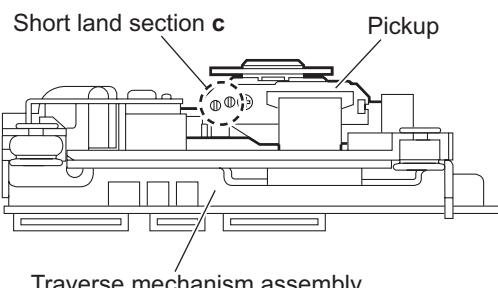

Fig.5
(See Figs.5 and 6)
- From the side of the traverse mechanism assembly, solder the short land sections **c** on the pickup. (See Fig.5.)
- Solder the short land sections **c** on the pickup before disconnecting the card wire from the connector CN101 on the DVD servo board. If the card wire is disconnected without attaching solder, the pickup may be destroyed by static electricity. (See Figs.5 and 6.)
- When attaching the DVD servo board, be sure to remove solders from the short land sections **c** after connecting the card wire to the connector CN101 on the DVD servo board. (See Figs.5 and 6.)
(See Figs.5,7 to 9)
- Solder the short land sections **c** on the pickup before disconnecting the card wire from the connector on the pickup. If the card wire is disconnected without attaching solder, the pickup may be destroyed by static electricity. (See Figs.5 and 7.)
- When attaching the pickup, be sure to remove solders from the short land sections **c** after connecting the card wire to the connector on the pickup. (See Figs.5 and 7.)
(See Figs.5,7 to 10)